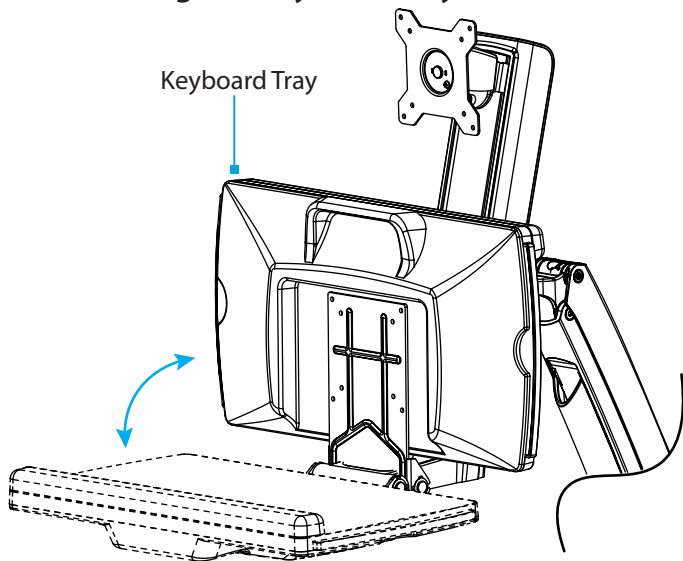

Figure 25
- Pull up or push down on the **Keyboard Tray** to adjust the angle between 0° to 90°. (Figure 25)